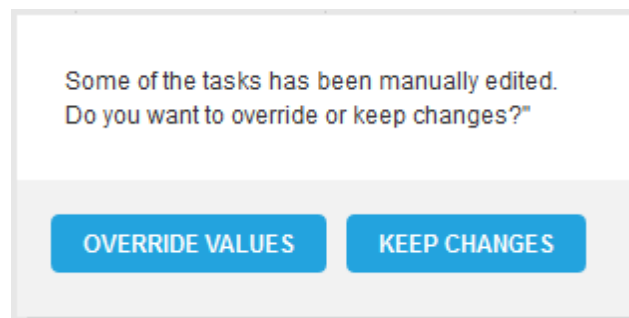

Figure 2.28
3. Click **APPLY UNCERTAINTY** button to apply the saved uncertainty. (Figure 2.24) While applying uncertainty, if there any manually edited tasks then a validation message shown as in Figure 2.28. If you don't want to overwrite the data you can click the **Keep Changes** button.